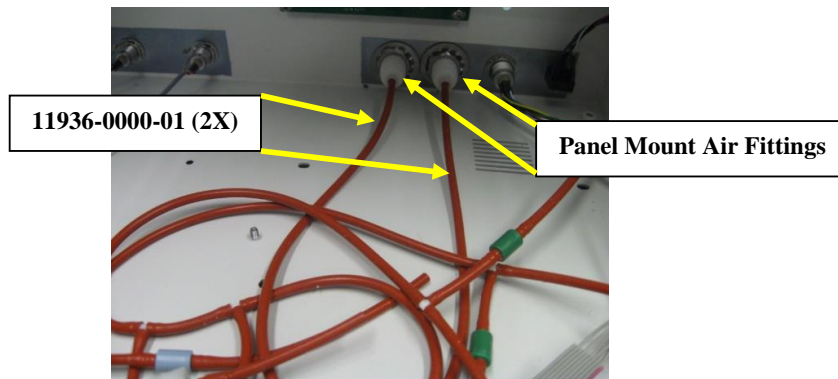

Figure 29
- 12.23. Attach Internal Hose Assemblies (11936-0000-01) to the Panel Mount Air Fittings, one for each, as shown in Figure 29. Save the serial numbers, for the Hose assemblies, until later. *Note: The long end of the tubing will be connected.*